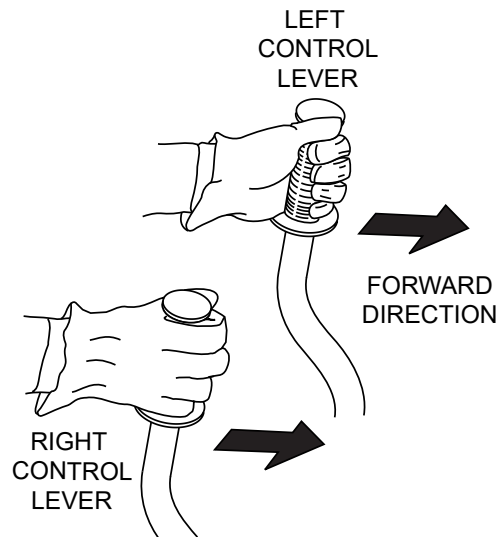

Figure 16. Control Levers (Forward)
- Push both the left and right control levers forward. See Figure 16.